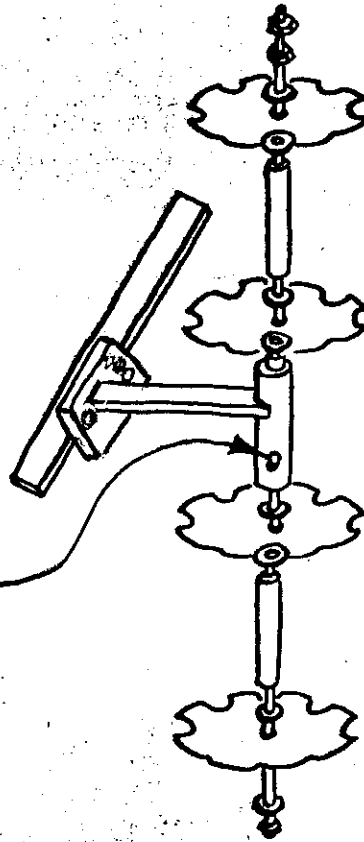

Figure 5
- E. Install remaining parts as follows: (1) 3/4 flatwasher, (1) disc blade, (1) flatwasher, (1) painted spacer, (1) flatwasher, (1) disc blade, (1) flatwasher, and (1) 3/4-10 hex nut. Tighten nut securely, install second 3/4-10 hex nut, tighten securely, locking it to the first nut. Assemble second assembly in the same manner. See Figure 5.